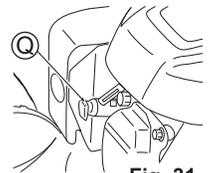

Fig. 31
1. Remove the spark plug cap (Q). (See Fig. 31)